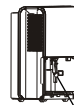
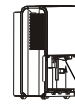

Fig.7 Pump hose drops
Fig.8 Reinstall pump hose properly
- If the pump hose drops when you remove the bucket (see Fig.7), you must reinstall the pump hose properly to the unit before replace the bucket into the unit (see Fig.8).